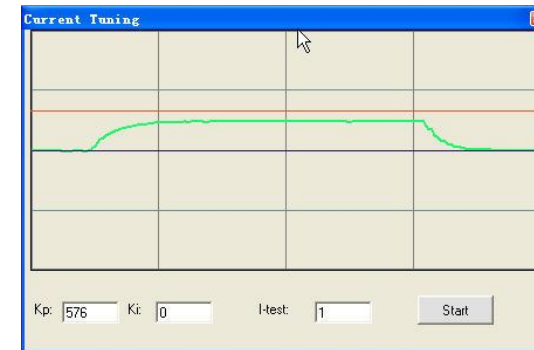

Figure 23: Kp=2604, Ki=0 (poor performances)
**Kp: Proportional Gain.** Proportional Gain determines the response of the driver to current setting command. Low Proportional Gain provides a stable system (doesn't oscillate), has low stiffness, and large current error, causing poor performances in tracking current setting command in each step like Figure 23. Too large Proportional Gain values will cause oscillations and unstable systems.